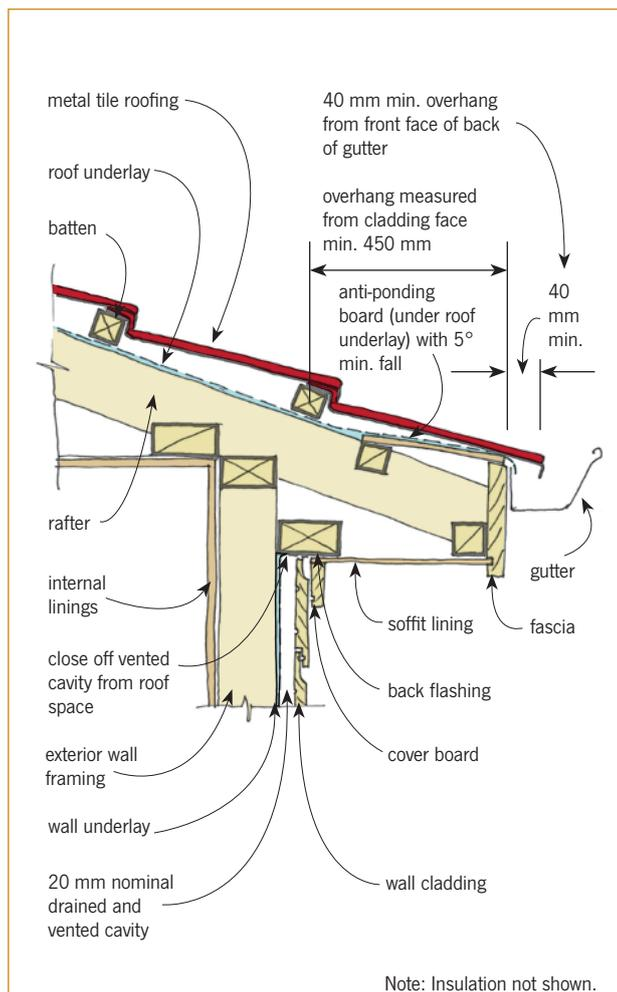

Figure 1. Eaves overhang – timber fascia.
**4.0.2** Figures 1–9 are reproduced from BRANZ *Weathertight Solutions Volume 5*.
**5.0.4** At the eaves, the underlay must finish over the fascia board to allow any water on it to drain into the spouting. While not commonly done, adding an anti-ponding board will ensure that any liquid water on the roof underlay will not cause it to sag and prevent the drainage of the water into the gutter (Figure 1).